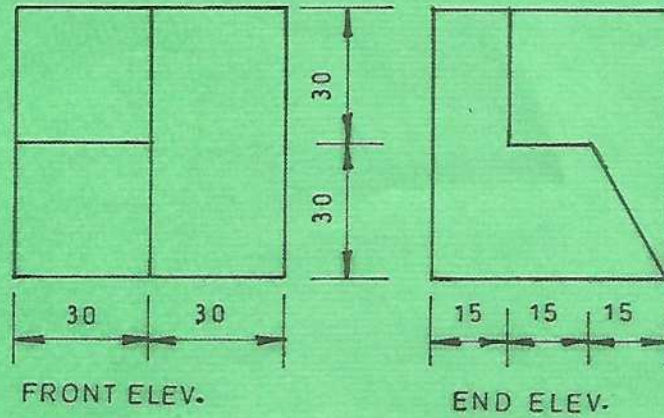

Fig. 5
5. Figure 5 shows orthographic views of a shaped block drawn in 1st angle projection.